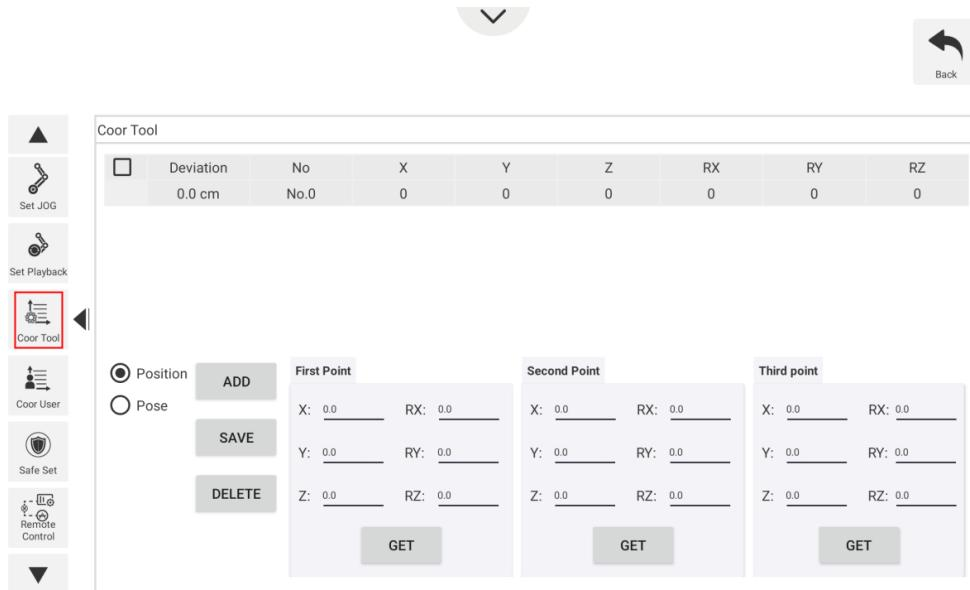

Figure 3.9 Tool Coordinate page
**Step 2** Click **Tool coordinate** on the **Setting** page. As shown Figure 3.9.